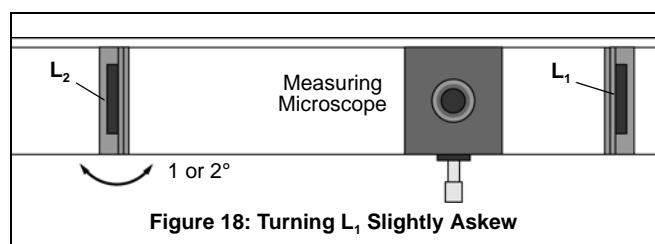

Figure 18: Turning  $L_1$  Slightly Askew
33. Clean up the point image by turning  $L_2$  slightly askew, so it is no longer quite at a right angle to the beam axis (see Figure 18).